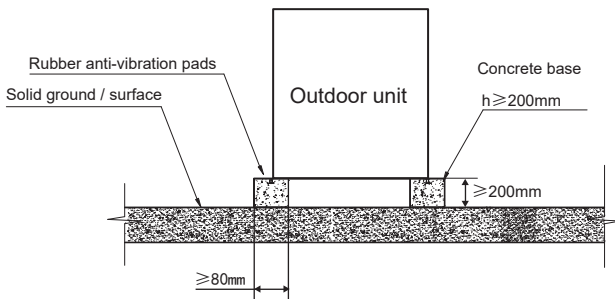

Fig.6-6 Front view of base structure
d. A typical concrete base design is shown in Fig. 6-6. A typical concrete specification is 1 part cement, 2 parts sand and 4 parts crushed stone with steel reinforcing bar. The edges of the base should be chamfered.